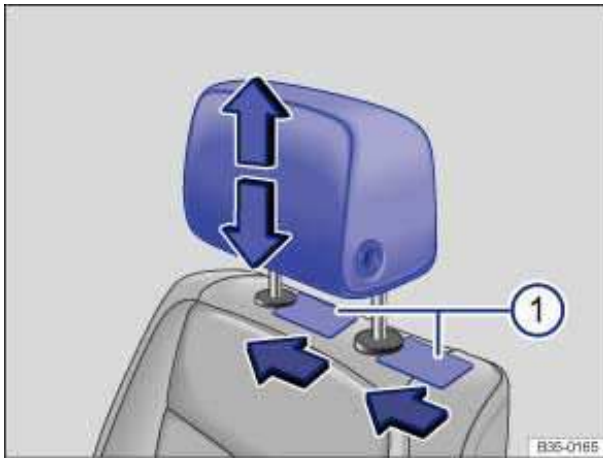

Fig. 38 Removing the front head restraints.
- On each side of the seat, slide a flat object, such as a plastic credit card, between the seat backrest and the cap of each head restraint rod guide ⇒ fig. 38 \(1\) to unlock the head restraint. Press lightly at the same time to release the rods.